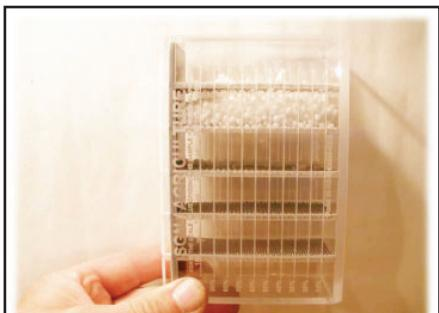

Figure 5
4. Figure 5- Rotate scale vertical and shake to separate material, usually less than two minutes.